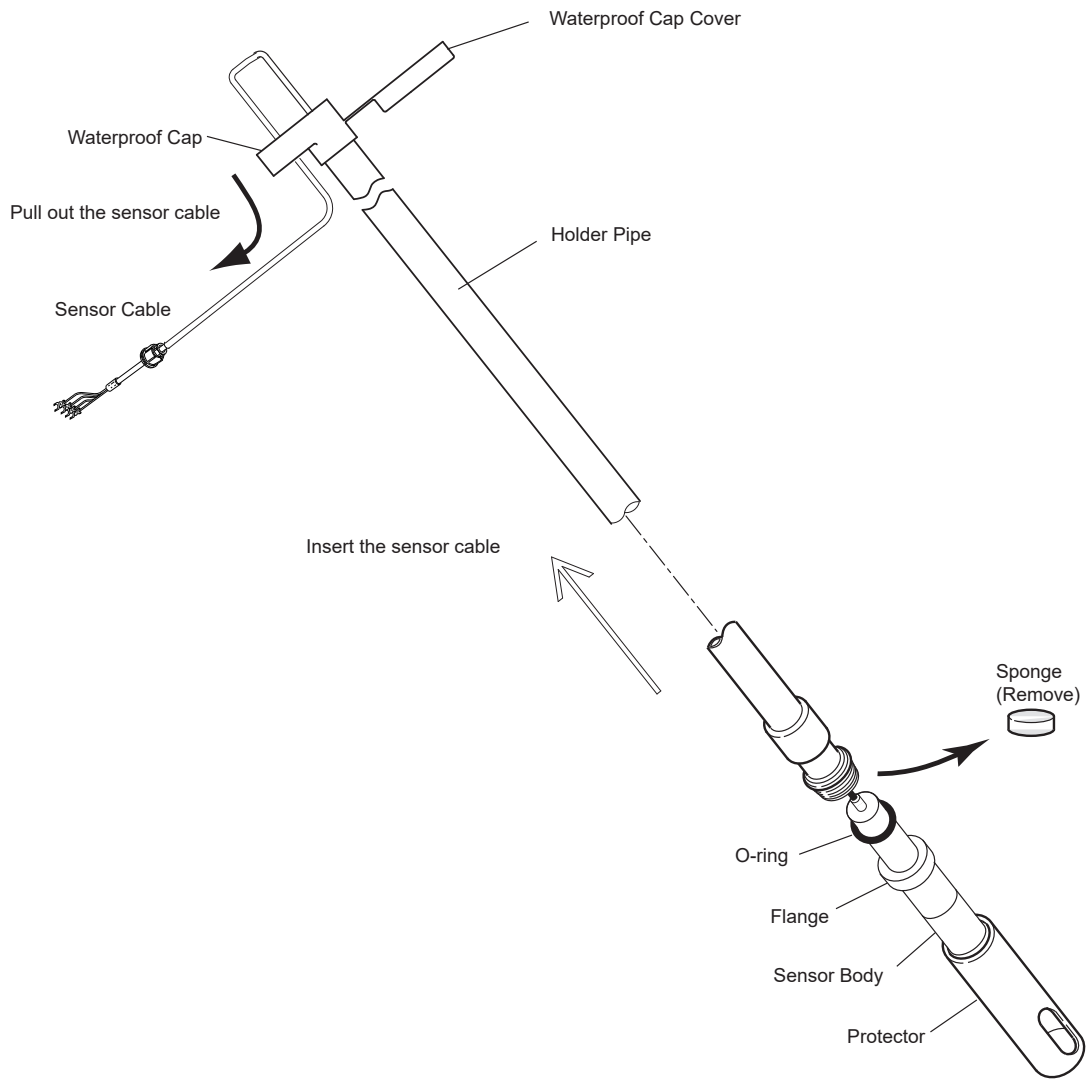

Figure 2.7 Assembling into the sensor holder
- (2) Pass the cable and KCl solution supply tube through the sensor holder as follows:
- First, as shown in Figure 2.7, remove the protector screwed into the tip of the sensor holder. After removing it, take away the sponge (material for transportation, not necessary after remove). Pass the sensor cable through the O-ring and attach it to the flange of the sensor. Then, open the waterproof cap cover and insert the sensor cable into the sensor holder pipe.